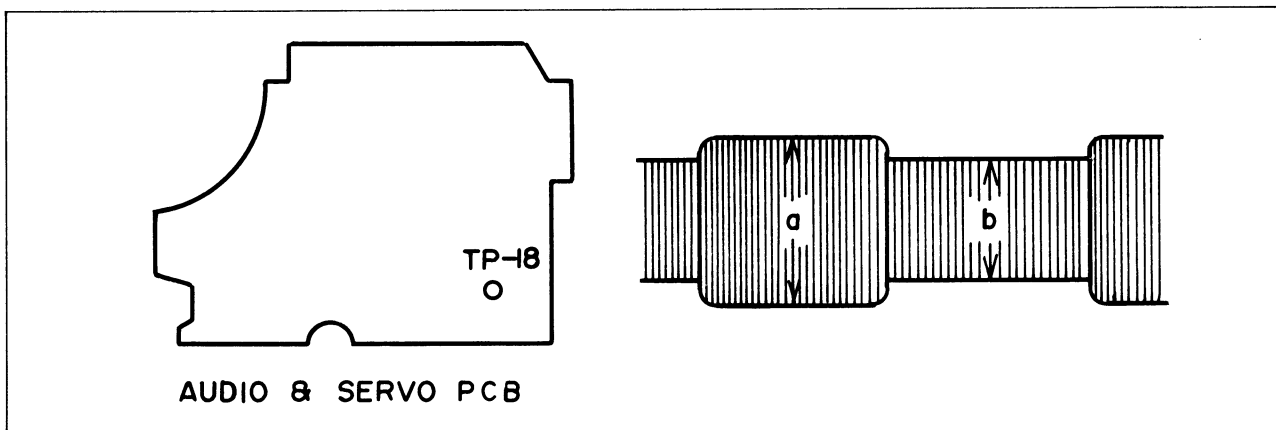

Fig. 5-21. FM output waveform
1. Refer to Fig. 5-21.
2. At this time, verify that the level of the waveform as shown in Fig. 5-21 is more than 1.0 volt p-p and verify that the difference between amplitudes (a) and (b) is within 6db.